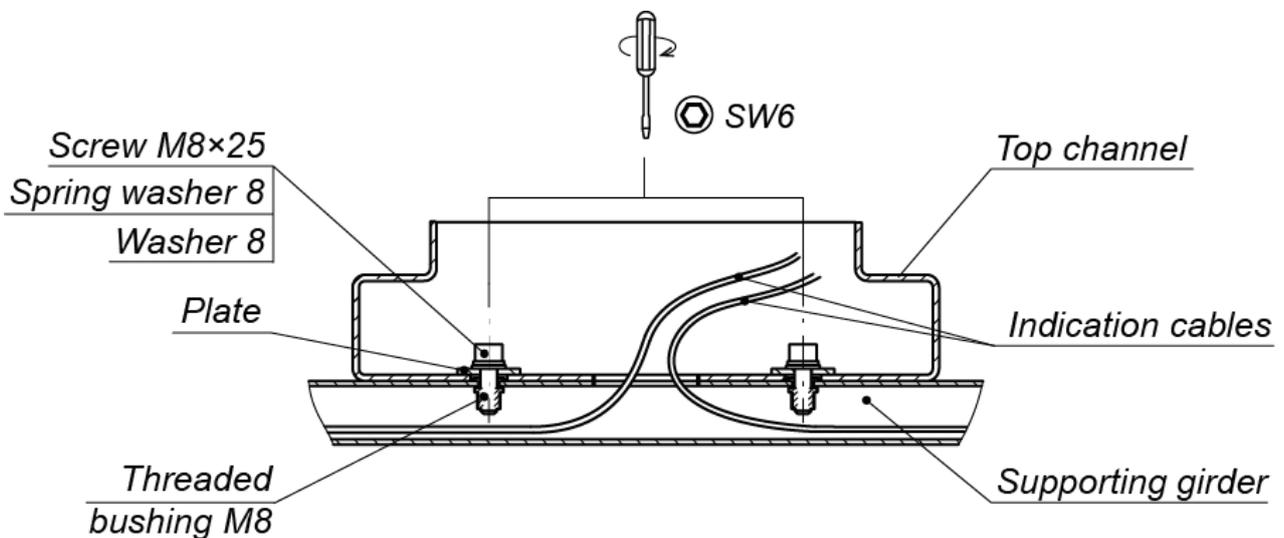

Figure 17. Top channel to supporting girder fastening
- Fix the top channel to the supporting girders (7) and to the top girder of the divider (8) with six bolts M8×25 and the key SW6, using two plates from the delivery set (Fig. 17). Do not tighten the bolts for later adjustment.